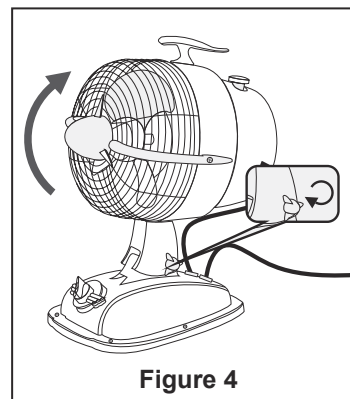

Figure 4
- ☐ 4. Turn the tilt angle adjusting knob on the fan's neck to the left on loosen and hold the fan head to adjust up and down to the desired tilt angle. Turn tilt angle adjusting knob to the right to tighten the fan head once your fan is at the desired tilt angle. (Figure 4)